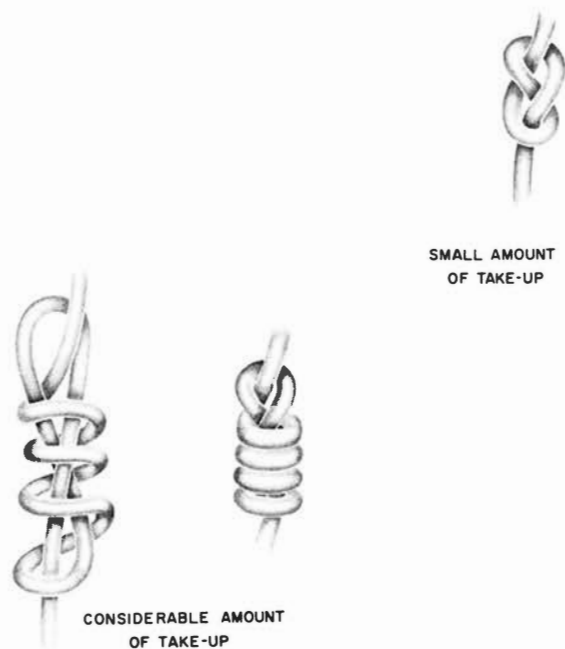

Fig. 10 — Mounting Cord Take-Up
5.11 Where location of a subscriber set does not result in raising cords above floor level, cord may be shortened by knotting (see Fig. 10). Locate cord knot near subscriber set.